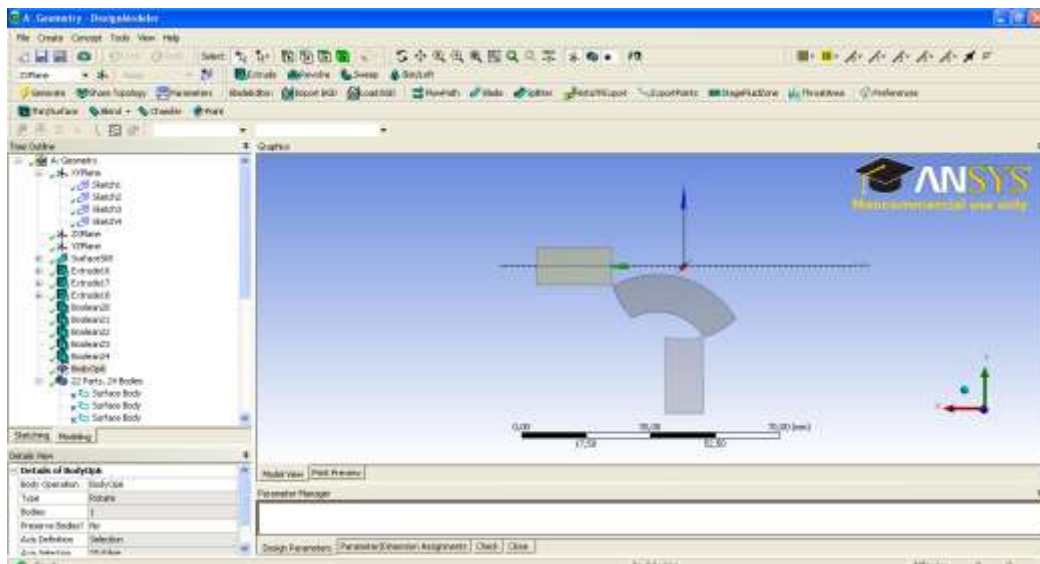

Fig. 6. Rotation of main passage by -30 deg.
9. Rotate the main passage by 30 deg (fig. 6). **Create/Body Operation/Rotate**. Click on the zx-plane before choosing the axis perpendicular to the body under **Axis Selection**. Specify -30 deg under Angle.